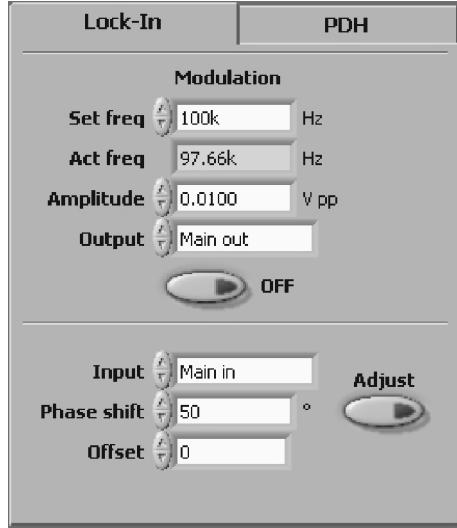

Figure 47 Lock-In Module with typical Parameters
22. Configure the parameters for the **Lock-In** module (see Figure 47). The modulation set frequency (Set freq) has to be chosen depending on the spectral resonance. A reasonable choice is about 1/10 of the characteristic linewidth. In this example a frequency of about 100 kHz is used. Due to the specific architecture of the DigiLock 110 only discrete frequencies are possible. Type in the desired one and the system will automatically determine the nearest one available (Act freq).